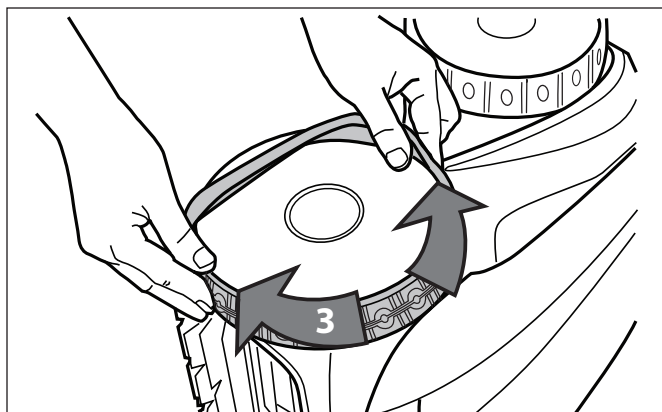

Figure 37. Work the Tire On Around the Wheel
5. Work the tire onto the wheel and verify the rib of the tire is positioned properly within the groove of the wheel. Refer to Figure 37.